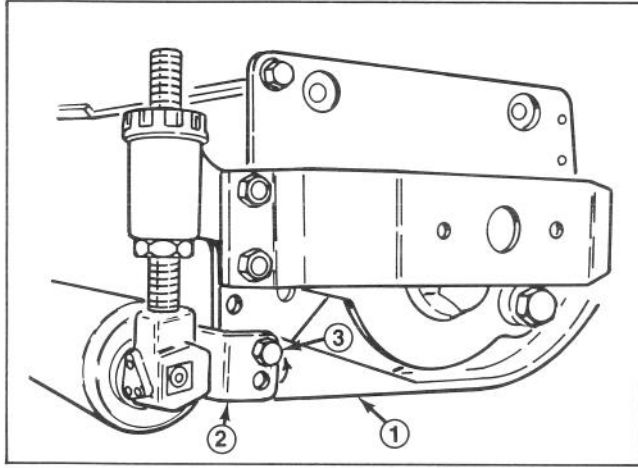

Figure 5
1. Remove bolt securing skid to roller bracket (Fig. 5).
2. Pivot skid upward aligning it with top hole in roller bracket (Fig. 5).